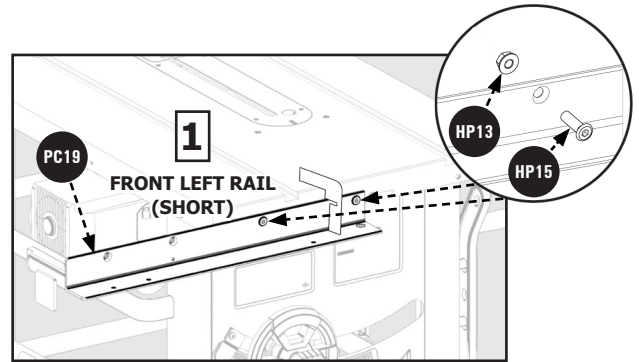

Figure 5
1. Attach the Front Fence Rails **PC19** (1&2) to the Table Front using (4) 5/16-18 x 1-1/8 inch Flat Countersunk Hex Screw **HP15**, and (4) 5/16-18 Hex Flange Nuts **HP13**, see Figure 5 and 6.